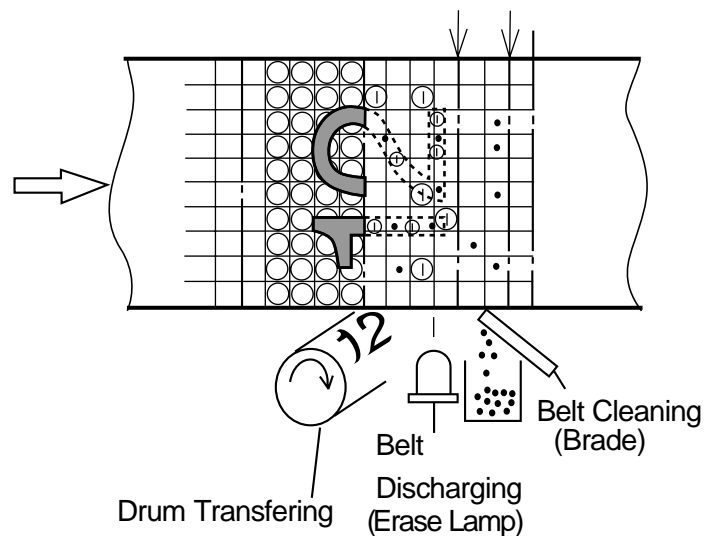

Fig.4-19
(2). Process of Belt Cleaning (Fig.4-19)
- ①. There is a residual toner on the OPC belt as it has not been transferred in the process of drum transfer.
- ②. Residual toner is mechanically scavenged by the blade edge.
- ③. Scavenged residual toner is collected to the waste toner pack by the waste toner feeder.